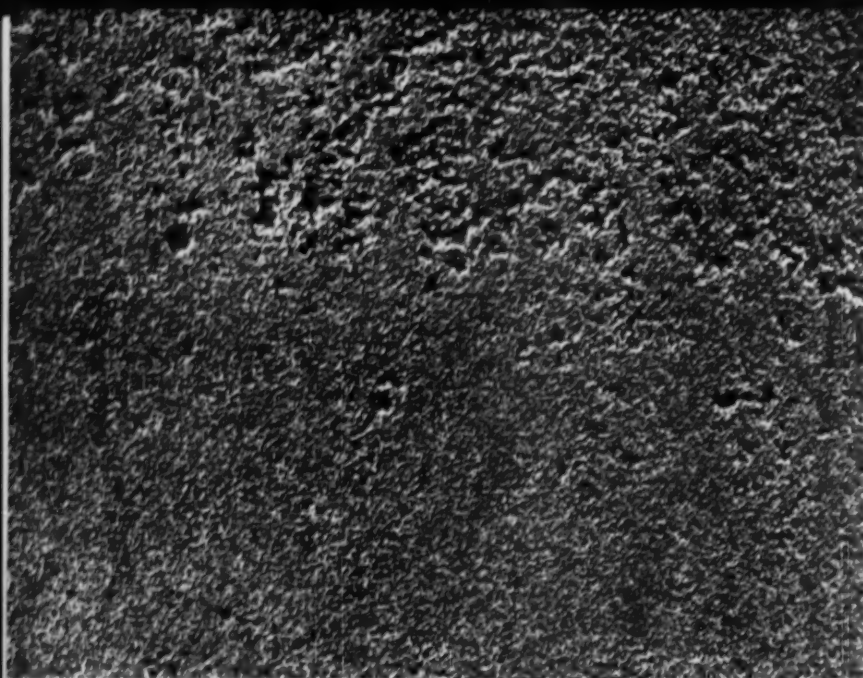

Fig. 4 . . Depressions in low density area of vertical shell surface are result of excessive pattern temperature. Higher melting resin might help.
3. *If the shell has low density areas, use a higher melting resin or lower the pattern temperature.* It is essential that there be sufficient time after the resin begins to soften to allow a good fill of the mix around the pattern before cure advances to the state where the mix will no longer flow. Higher melting resin or lower pattern temperature will allow this time for the mix to fully reproduce the pattern contour before the resin begins to cure. Fig. 4 shows a poorly filled vertical surface caused by excessive pattern temperature.